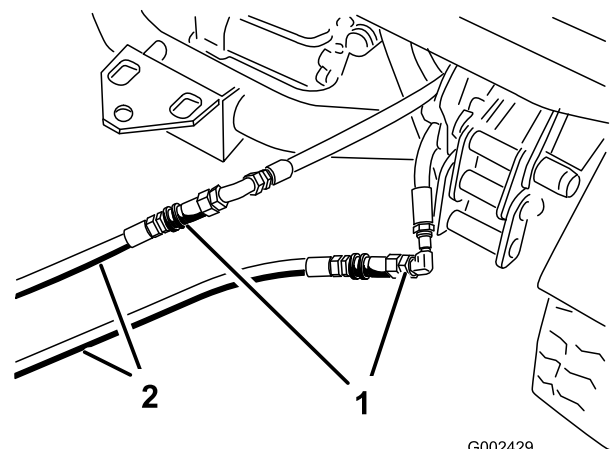

Figure 69
3. On the disabled machine, connect the 2 jumper hoses to the hoses that were disconnected (Figure 69).